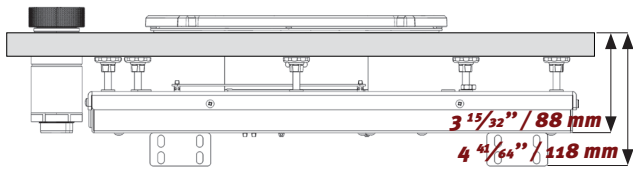

fig. 3
- Keep in mind that the total thickness of the induction appliance and support set is 4 41/64 inch / 118 mm (Top Side and Front Side) measured from the top of the worktop (fig. 3). This is important for constructing the kitchen.
- To prevent bending of the worktop, the induction appliance needs to be supported with the PITT Cooking support bar set (fig. 3 and 4).